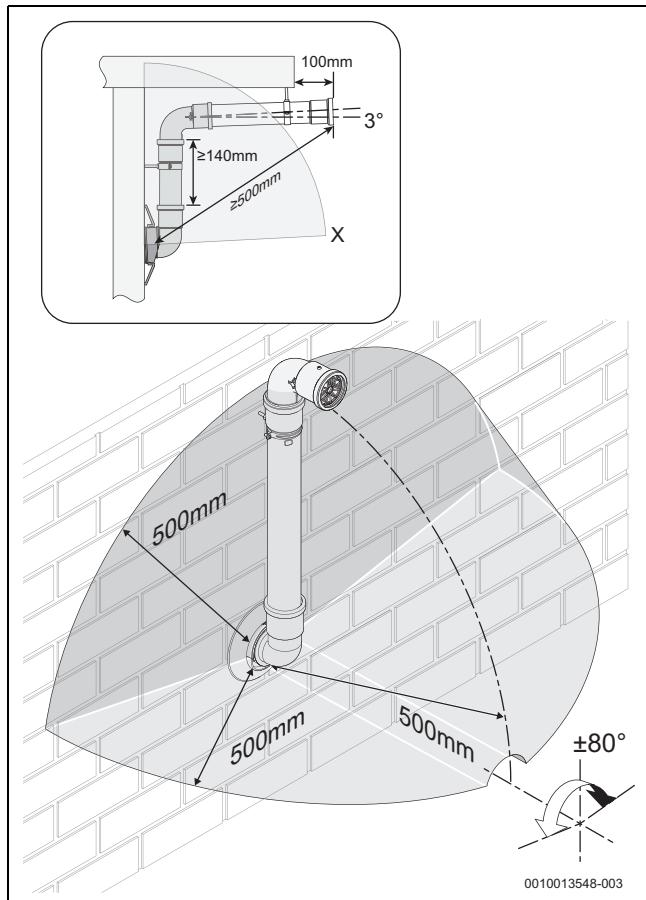

Fig. 27 Terminal exclusion zone
- Do not terminate the plume management inside the terminal exclusion zone (shaded area) shown in figure 27.